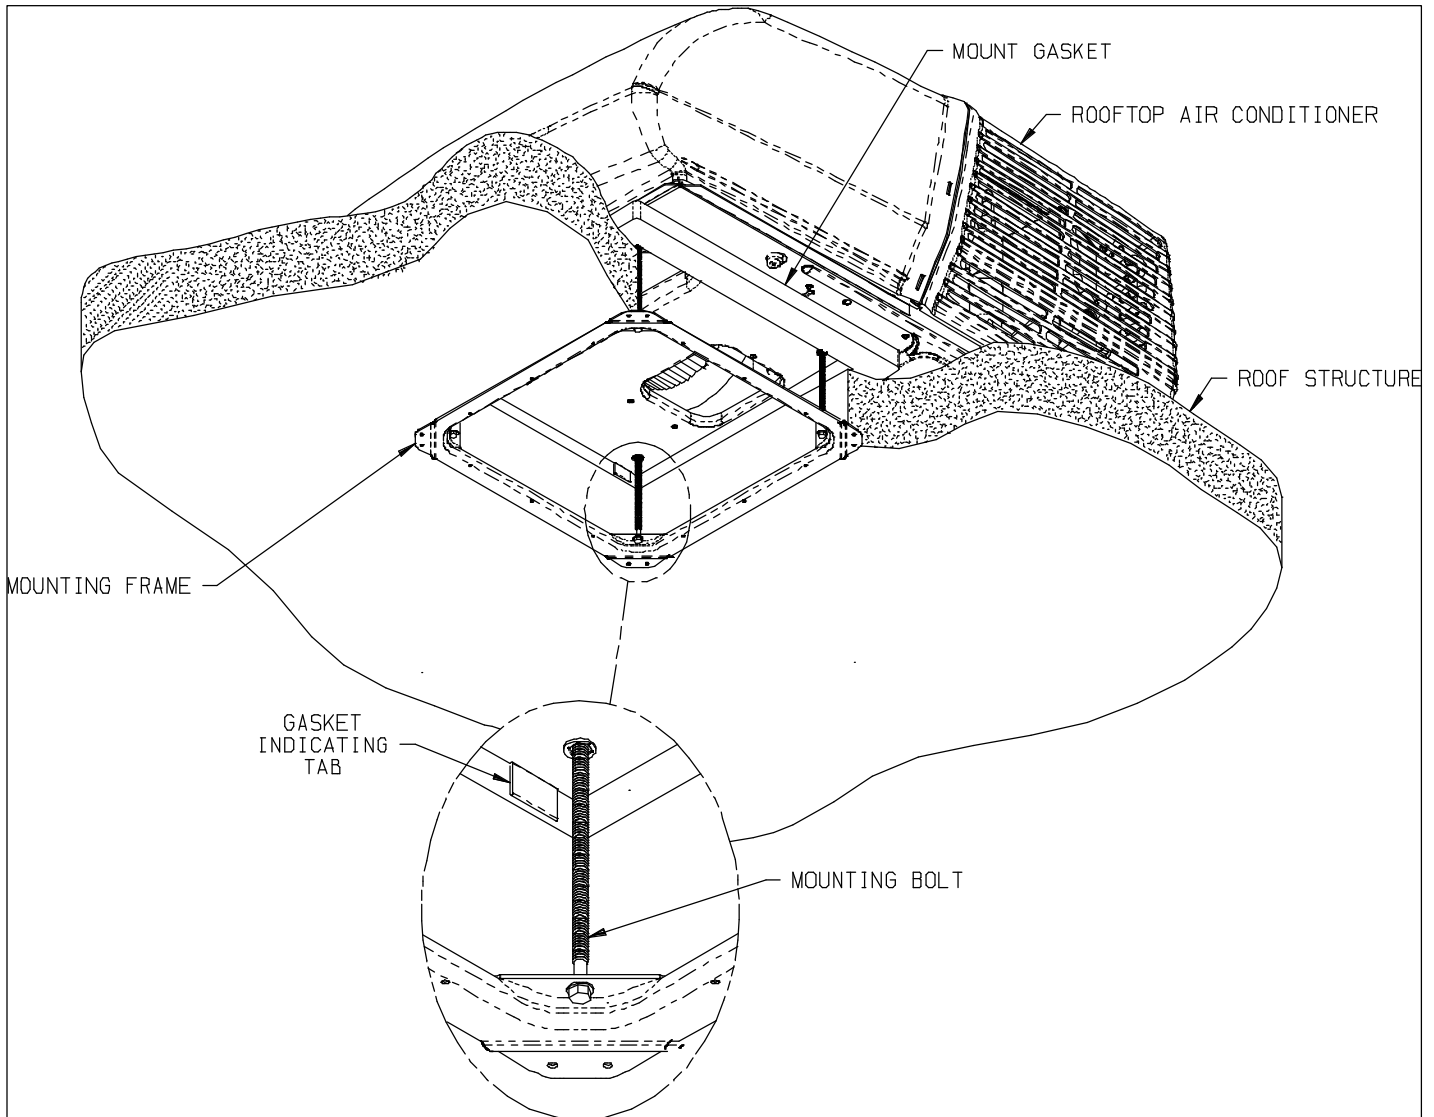

FIGURE 5
A mounting frame is supplied with the ceiling assembly. Follow the steps below to secure the heat pump to the roof. Refer to Figure 5.
- C. Proper tension has been achieved for each bolt when any portion of each gasket indicating tab has been pulled down even with the roof. See Figure 5. The upper unit has now been properly installed with optimum gasket compression.